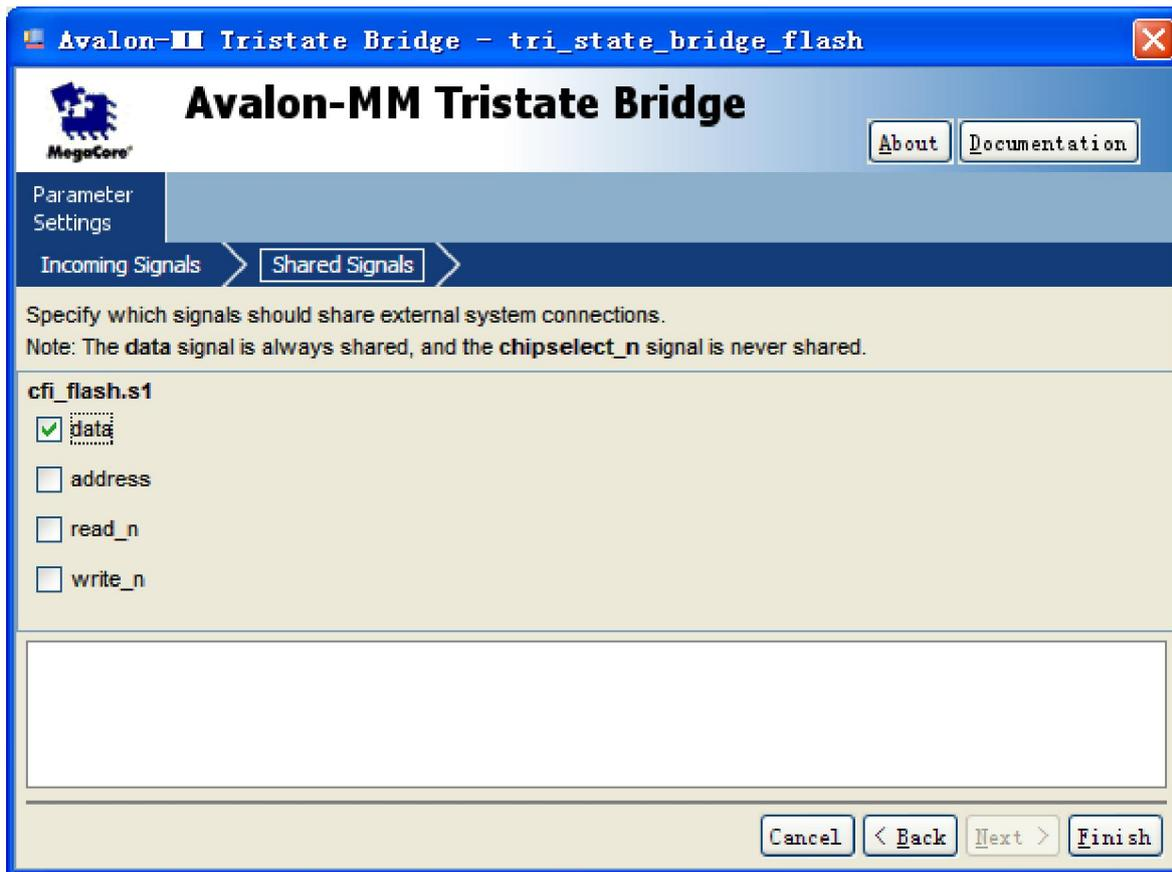

Figure 3-12 Choose data box
10. Choose tri_state_bridge_flash > Shared Signals tab, and choose data box as shown in Figure 3-12.